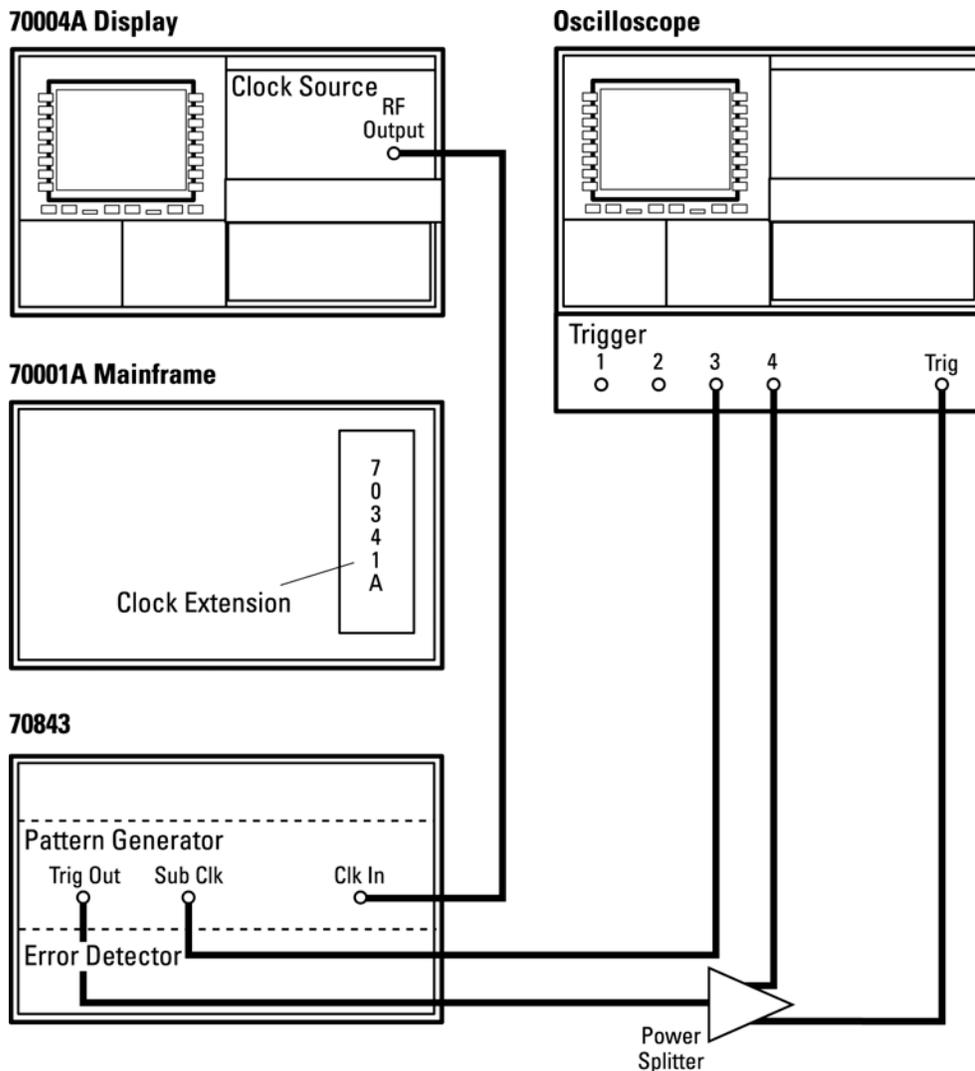

Figure 11-8
1. Connect the equipment as shown in Figure 11-8.